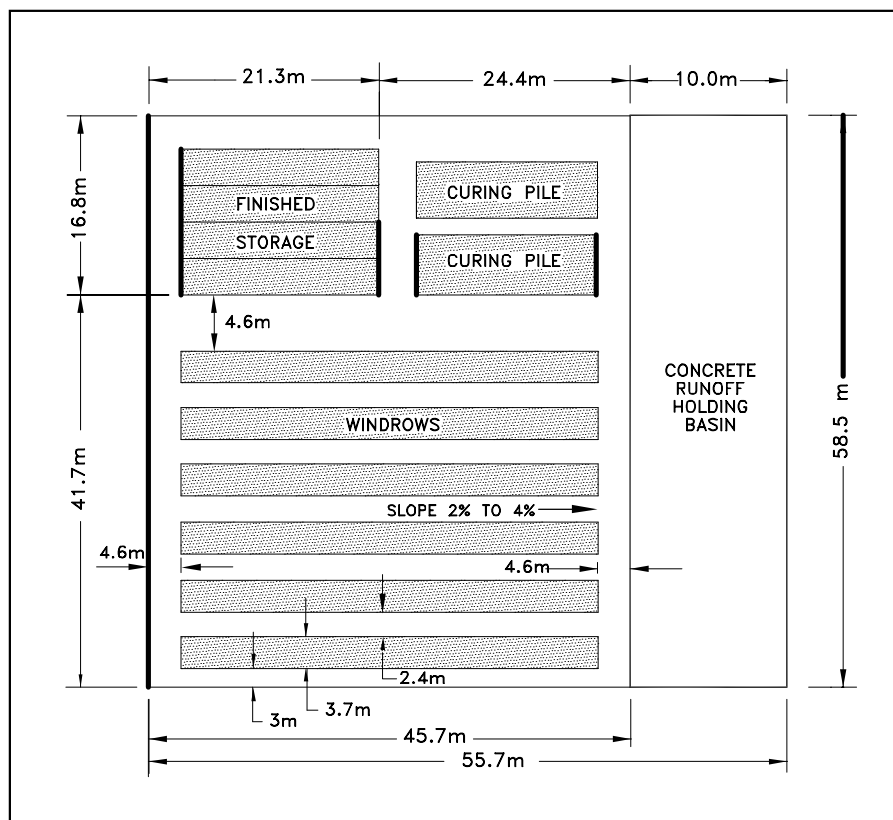

Figure 3 Outdoor Composting Facility as per Sample Calculation on Page 3
5. Figure 3 shows a possible layout for this size of outdoor composting facility. The total site area setbacks, work space, etc. covers 0.4 hectares.
Answer: A concrete runoff basin 10 m x 5 8.5 m x 3 m deep, with 1: 1 sidewalls, will contain the 897 m³ of runoff plus the 393 m³ of precipitation that will fall into the basin during the worst winter six month period expected in a 25 year period. A possible layout is shown in Figure 3.